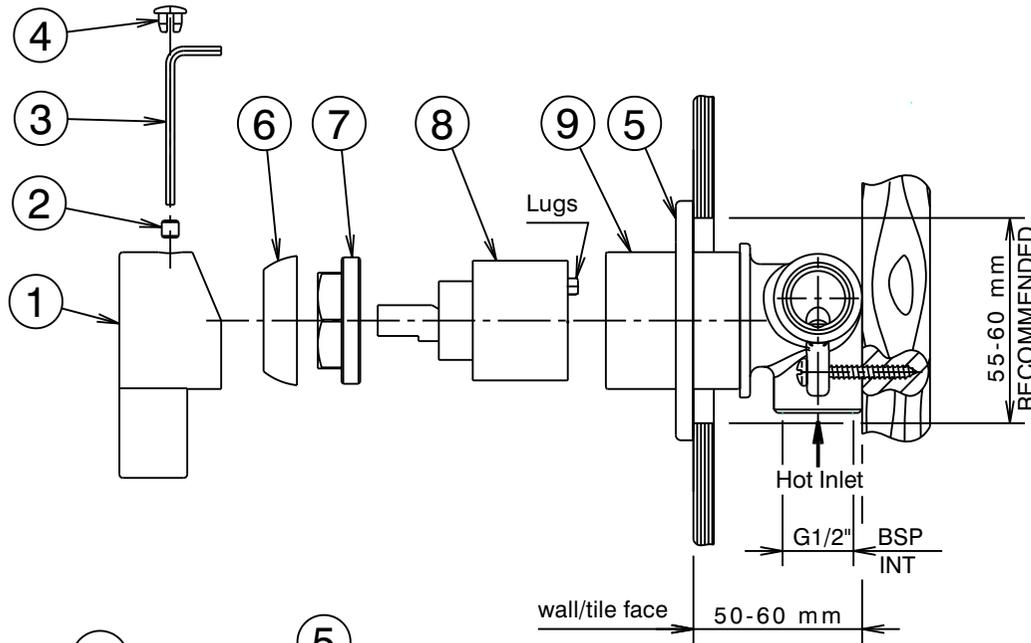
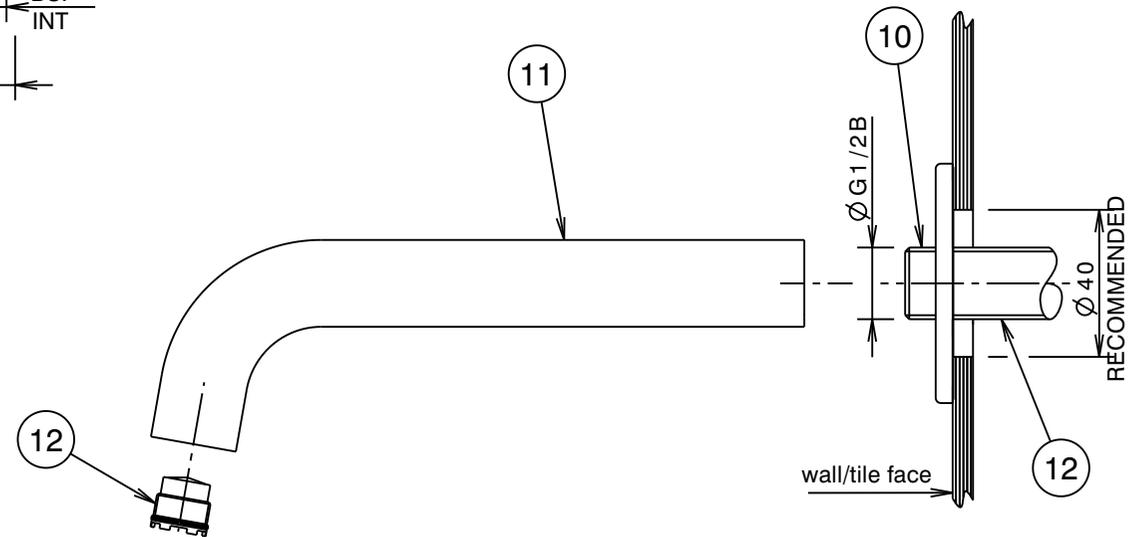

Fig. 1
Fig. 4
**Installation (Fig. 1&2)**
- \* Mixer body (9+10) must be installed square to wall/tile face and horizontal to ensure cover plate (5) aligns with finished tile joints.
- 2) *Trim kit:* Carefully fit the cover plate (5) onto the mixer body (9), push firmly on the cover plate (5) until it contacts the wall/tile face. Check the cover plate for horizontal alignment with the tile joints. Apply thread tape to the thread of wall elbow (10).
- 3) Fit handle (1) taking care that it is pushed fully onto cartridge stem, tighten screw (2) using the 2.5mm allen key (3) then fit plug (4).
- 4) Carefully screw the outlet (11) onto the thread of elbow (10) until the threaded end abutts the cover plate (5) and the aerator insert (12) is pointing down as shown, taking care not to damage the decorative finish. **DO NOT OVERTIGHTEN.**
**Replacing Cartridge (Fig. 1)**
- 2) Carefully remove plug (4) before using a 2.5mm allen key (3) to loosen grub screw (2) and remove handle (1). Remove cap (6) taking care not to damage the decorative finish. Unscrew nut (7) then lift out old cartridge (8).
- 3) Ensure inside face of mixer body (9) is clean. Check that seal is in position in base of new cartridge (8). Fit new cartridge (8) into mixer body (9), taking care that two lugs on base of cartridge (8) fit into mating holes in mixer body (9).
- 4) Screw on nut (7). **Important:-** Nut (7) should be tightened to a torque of 10 Nm.
- 5) Fit handle (1) taking care that it is pushed fully onto cartridge stem, then tighten grub screw (2) using the 2.5mm allen key (3). Replace plug (4), taking care not to damage the decorative finish.
**Removing Aerator Insert (Fig.4)**
- 1) Aerator insert (12) can be removed by carefully unscrewing using the driving slots in the rim.
- 3) When replacing aerator insert (12), be careful that thread is engaged correctly and 'O' ring is not damaged as it enters the bore. Tighten securely (to prevent removal by hand).